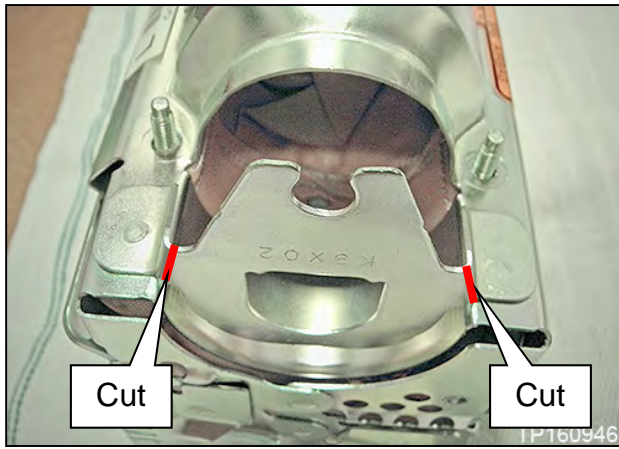

Figure 29
- a. Using side cutters or a suitable tool, cut the left and right vertical attachments where shown in Figure 29.